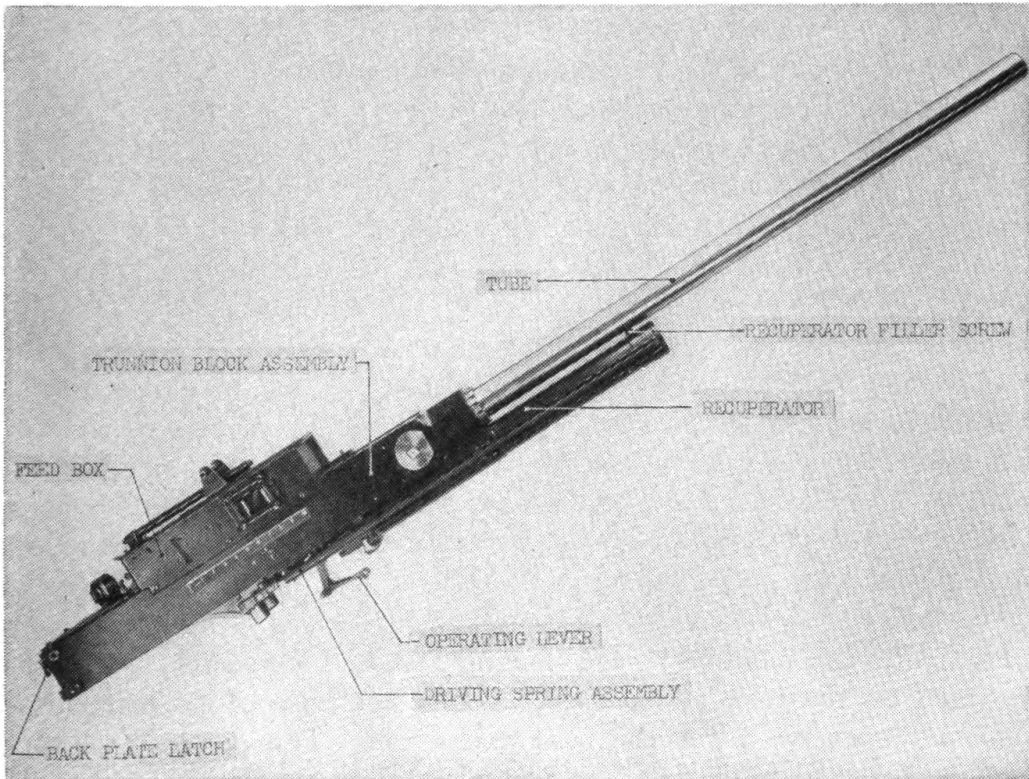

FIGURE 2.—37-mm aircraft gun M4—right side.
4. Description.—The 37-mm automatic gun M4 is an aircraft weapon. It uses the energy of recoil to load, fire, and eject projectiles automatically. It consists of two distinct parts, recoiling and nonrecoiling. The recoiling portion is composed of tube, tube extension, recuperator piston rod, lock frame, and lock frame driving spring assemblies. The nonrecoiling portion consists of the trunnion block assembly, feed box assembly, and recuperator cylinder (fig. 2).